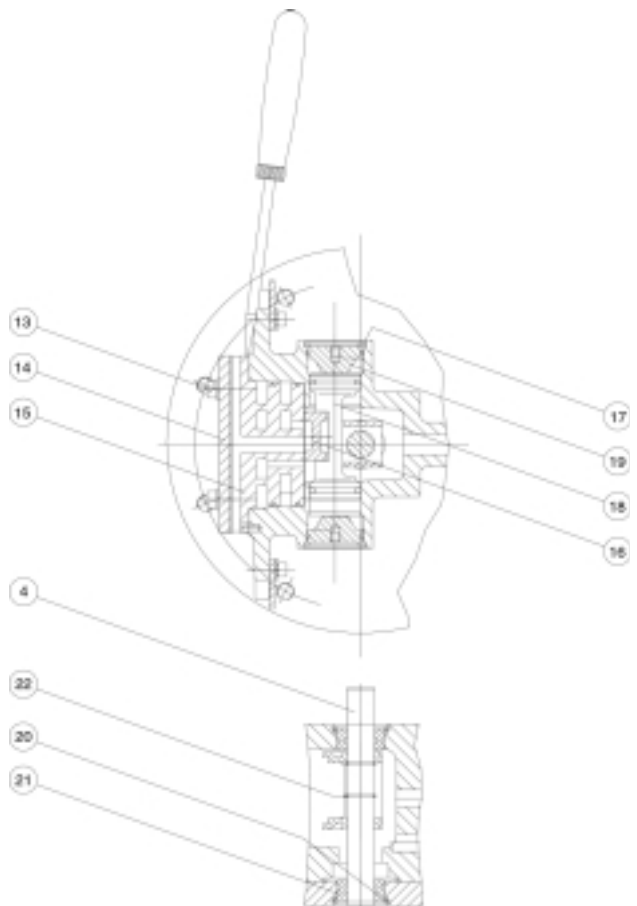

Figure 6
**Note:** Refer to Figure 6, on page 17 while performing the following procedures.
1. Using the 5 mm Allen wrench, remove the 16 socket head cap screws (1) that attach the inlet and outlet manifold assemblies to the pump.
2. Remove the four head screws (9) that hold the exhaust screen onto the shroud of the pump.
3. Remove the felt filter (10).
5. Using the 1-1/16 or 28 mm open end wrench (or the adjustable wrench), remove the main air supply fitting (12), pulling it out through the shroud.
7. Using the 5 mm Allen wrench, remove the four socket head cap screws (13) and the air valve cover (14) from the pump housing.
8. Using two flat blade screwdrivers, pry the air valve plate (15) out of the pump housing. When prying, place the screwdriver tips in the two recesses on the air valve plate.
9. Remove the valve block (16).
10. Using the internal snap-ring pliers, remove the snap rings (17) from both ends of the valve carriage (18).